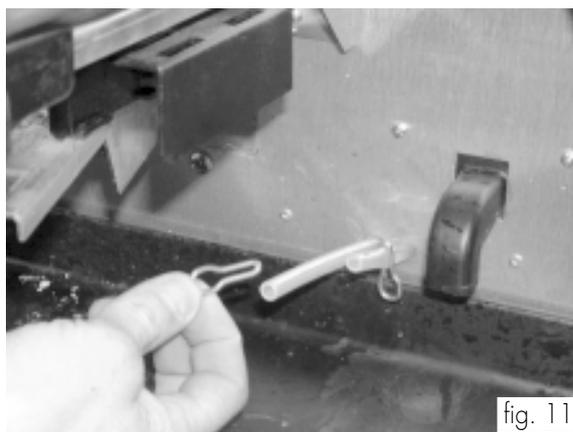
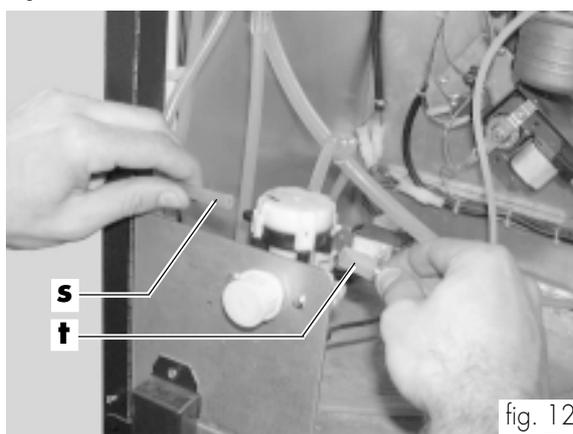
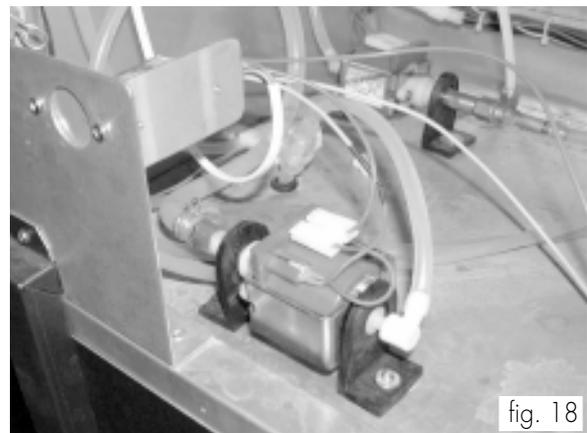

fig. 11
fig. 12
fig. 18
- Open the upper door and take out the retaining spring from the left hand pipe (fig. 11).
- Disconnect the two pipes from the water inlet solenoid valve (fig. 12)
- Apply the pipe retaining spring (see fig. 11) on the silicone pipe (ref. t, fig. 12) fitted on "T" and previously removed from the inlet solenoid valve (fig. 13).
- Connect the pipe (ref. **s**, fig. 12), previously extracted from the water inlet solenoid valve, to the fitting located on the pump (fig. 18).